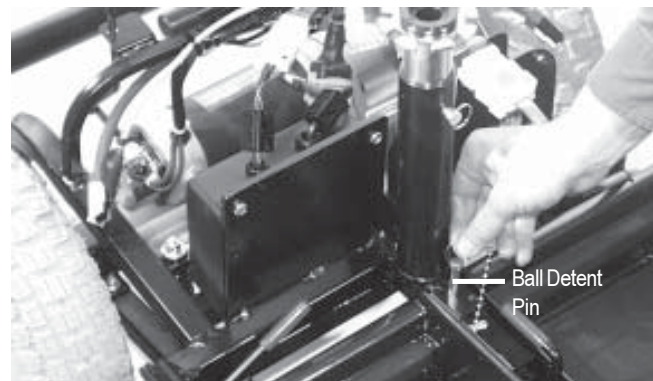

Figure 14. ball detent pin
9. Remove the ball detent pin from the frame. See figure 14.